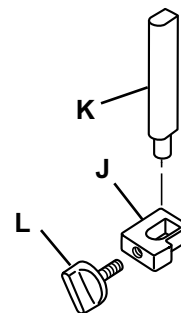

Figure 3
4. Assemble depth stop by sliding depth stop collar (J) onto the depth stop carriage (K) from the bottom with the round side of the collar matching the round side of the carriage. Secure the collar by screwing the depth stop adjustment knob (L) in the threaded hole. See Figure 3.